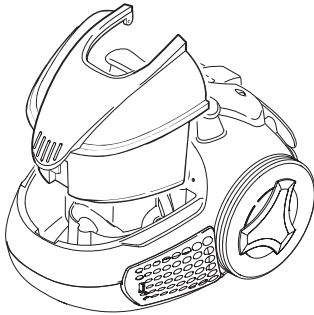

fig. 7
FILLING THE DUST COLLECTING TANK WITH WATER (FIG. 7–8)
- Remove the dust collecting tank from its slot (fig. 7).